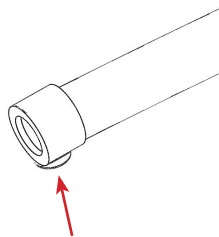

FIGURE 2.12 - Sleeve Lock Screw
STEP 1: Unscrew the sleeve lock screw to loosen the sleeve. Refer to FIGURE 2.12